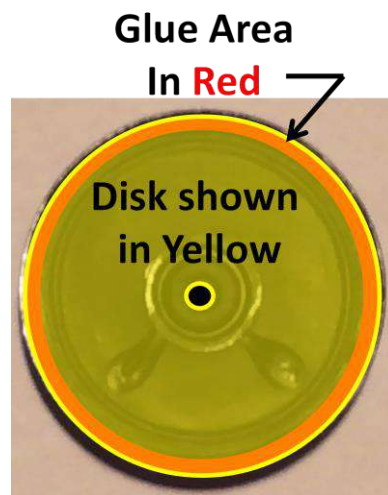

FIG. 6
Install Cover Disk to Speaker: (Refer to figure 6 & 7A for details)
- 1 – Prior to assembly, make sure the 1/8 inch hole in the **2-3/16 inch Cover Disk** (3) is in the center of the speaker and the outer edge of the disk is within the speaker metal frame. If not, make it so! It's **IMPORTANT!**
- 1 – Place a **small bead of Glue** (1) around the top ridge of the **Speaker**. See figure 6.
- 2 – Lay the **2-3/16 inch Cover Disk** (2) on the top edge of the **Speaker** (3) so the hole in the center of the **Cover Disk** is in the center of the **Speaker**. Applying a small weight the size of the speaker will help hold the pieces flat.